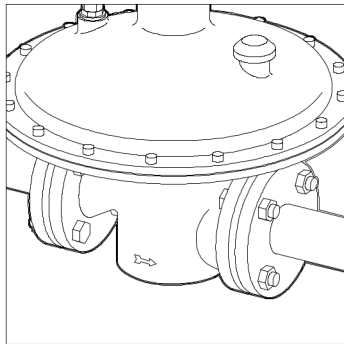

Fig. 1.
- 6) The direction of gas flow must be the same as the arrows on the regulator body. See Fig. 1.